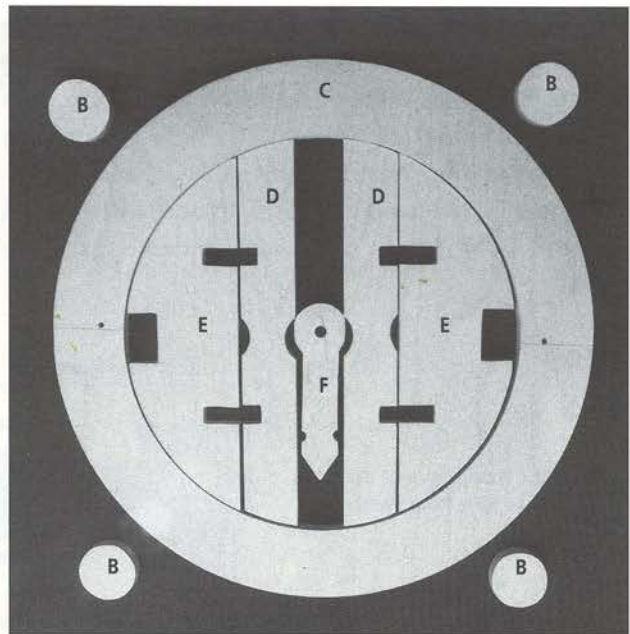

Fig 5.3 Parts B, C, D, E, and F sawn from the second ply square.
Fig 5.3 shows all the parts you will be cutting from the second of the three squares of plywood: the outer ring (C), the parts for the stand (two parts each labelled D and E), the four $1\frac{3}{8}$ in (35mm) discs (B, again) and part F.